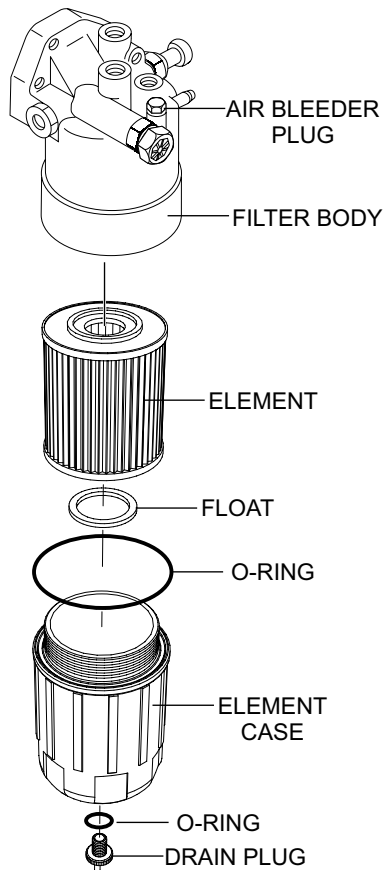

Figure 84. Fuel Filter Replacement
1. Use a filter wrench to remove the element case (Figure 84) from the fuel filter body.